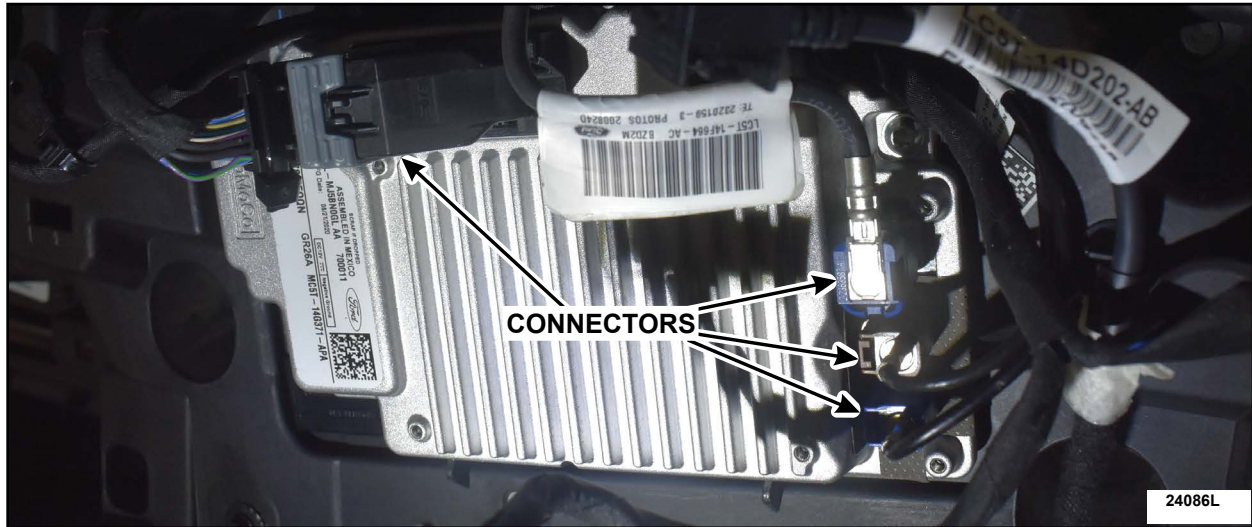

FIGURE 11
12. Connect the 4 electrical connectors. See Figure 11.